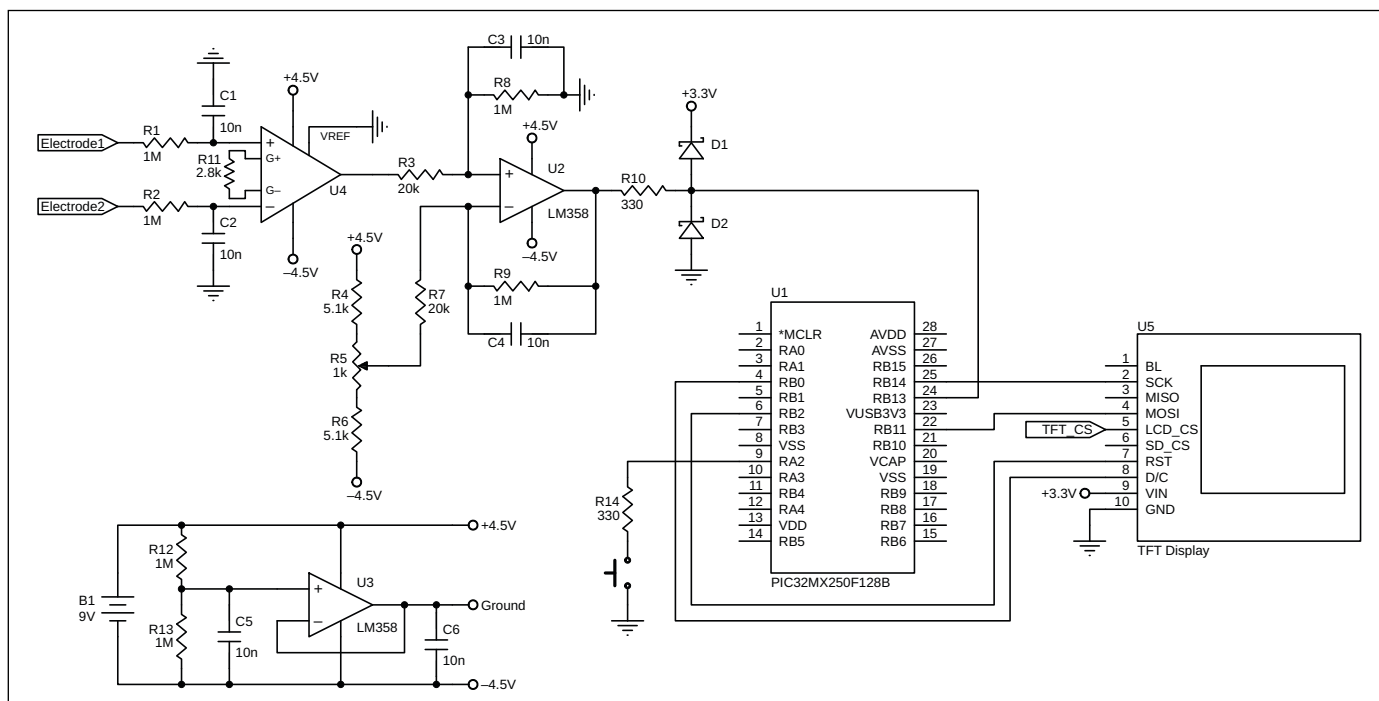

FIGURE 4
sent to a Texas Instruments (TI) INA121 differential amplifier, which amplifies the difference between the two input signals. This yields a negative or positive voltage based on direction of eye movement. The INA121 provides low noise, a high common-mode rejection ratio, and is suitable for the high-input impedance requirement associated with recording biological signals. **Figure 4** shows the full schematic of the implementation.
The EOG recording system described can be customized and tuned to change the range of the amplified voltage or tolerate higher precision. The calibration sensitivity is determined by a voltage divider, shown in the circuit in Figure 4, where the potentiometer is connected in series with two 5.1 k Ω resistors. If the two 5.1 k Ω resistors are replaced with higher-valued resistors, the DC voltage range determined by the potentiometer is smaller, and the offset can be controlled more precisely.